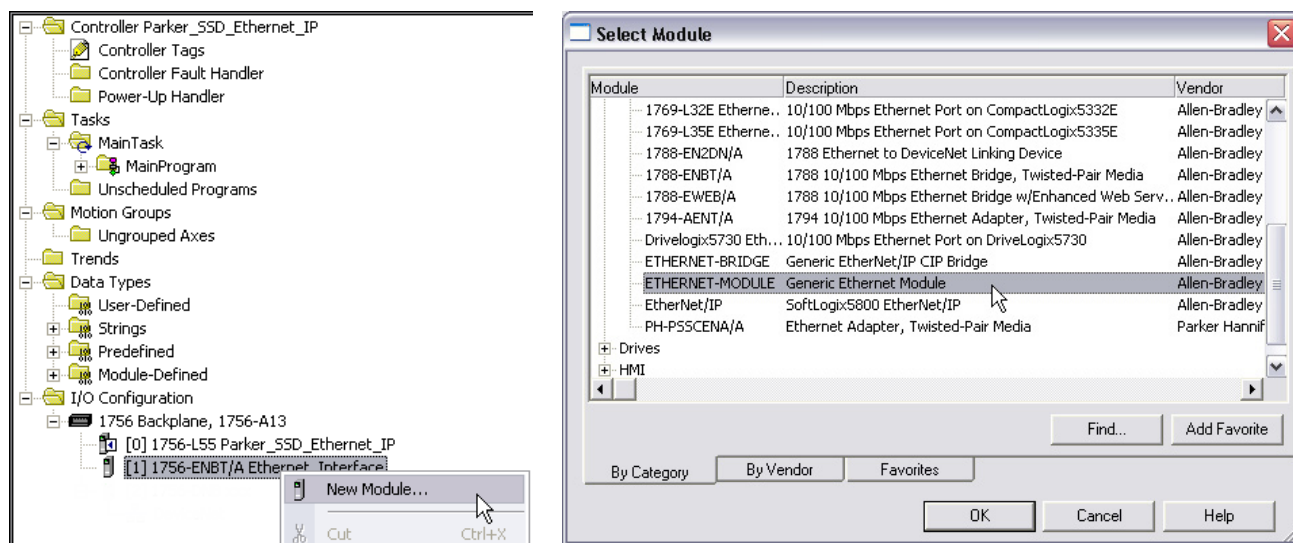

Figure 19. Generic Ethernet Module Select
- Right click on the Ethernet Interface Module, select New Module. This screen will allow the selection of the Generic Ethernet Module. Refer to Figure 19.